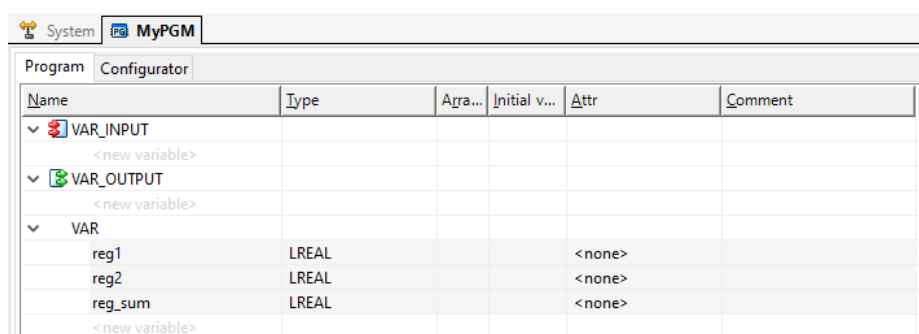

Figure 46: VAR list in the program CAT.
- Change to the **Program** tab. The created PLC data points show up in the VAR list as shown in Figure 46.